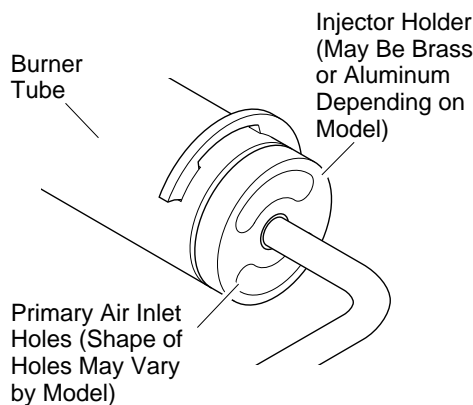

Figure 23 - Injector Holder On Outlet Burner Tube
2. Inspect burner, pilot, and primary air inlet holes on injector holder for dust and dirt (see Figure 23).